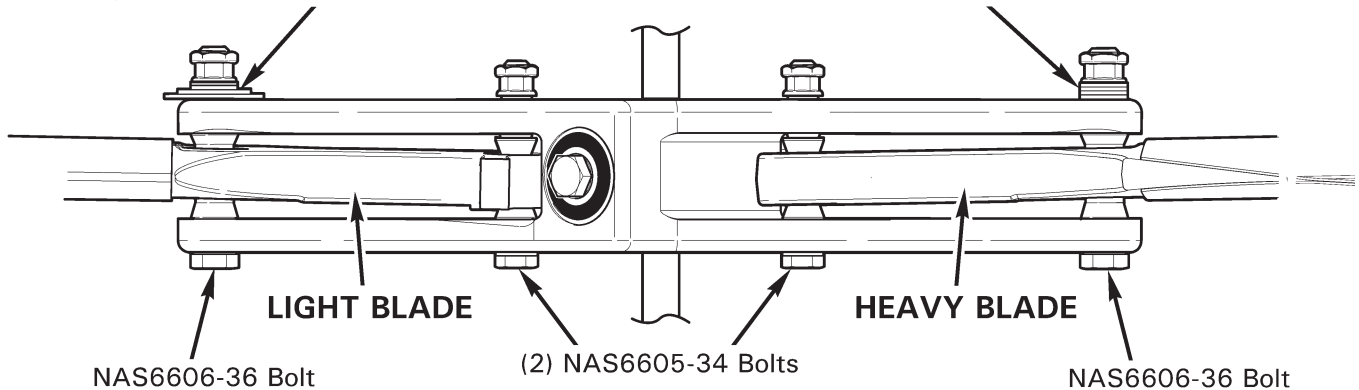

FIGURE 64-3 SPANWISE STATIC BALANCE
1. Refer to Figure 64-3. Install standard hardware for initial spanwise static balance check. Standard torque fasteners per Section 20-32.